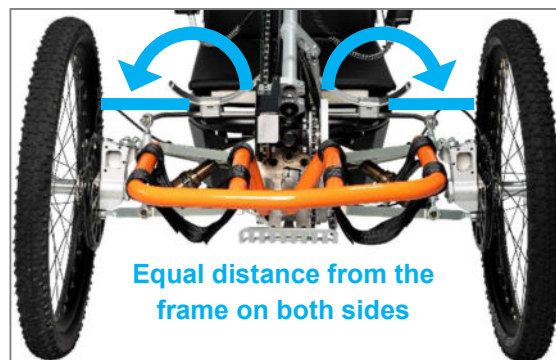

Figure 73: Distance from the frame at the rear
2. To adjust the wheel track, turn the left and right handlebar respectively in the corresponding direction until the desired distance between the wheels has been reached and the distance from the rear tyre markings to the seat frame is equal on both sides (Fig. 73 and 74).